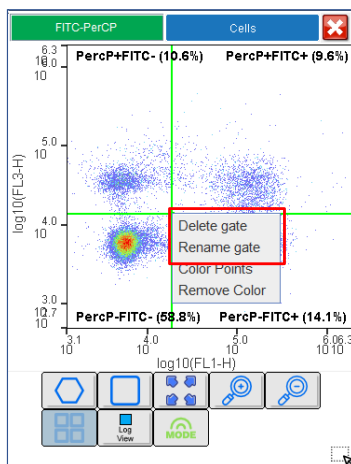

Figure 41. Deleting or renaming gates
2. Right-click and select the desired option (Fig. 41).